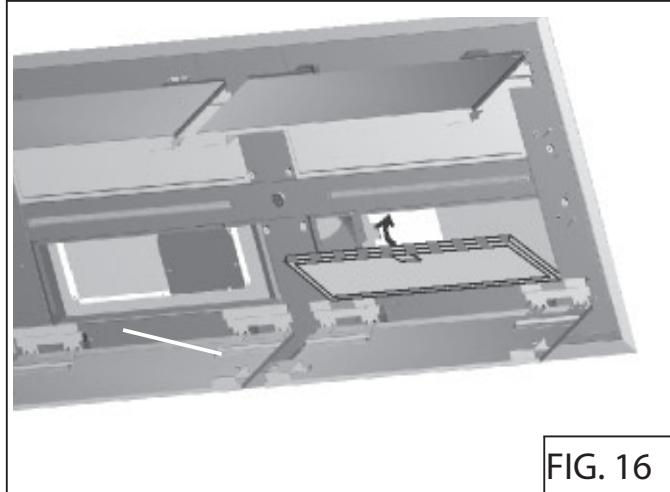

FIG. 16
1. To install the grease filters, align rear filter tabs with slots in the hood. Push latch tab in, push filter into position and release. Make sure filter is securely engaged after installation. Fig. 16.